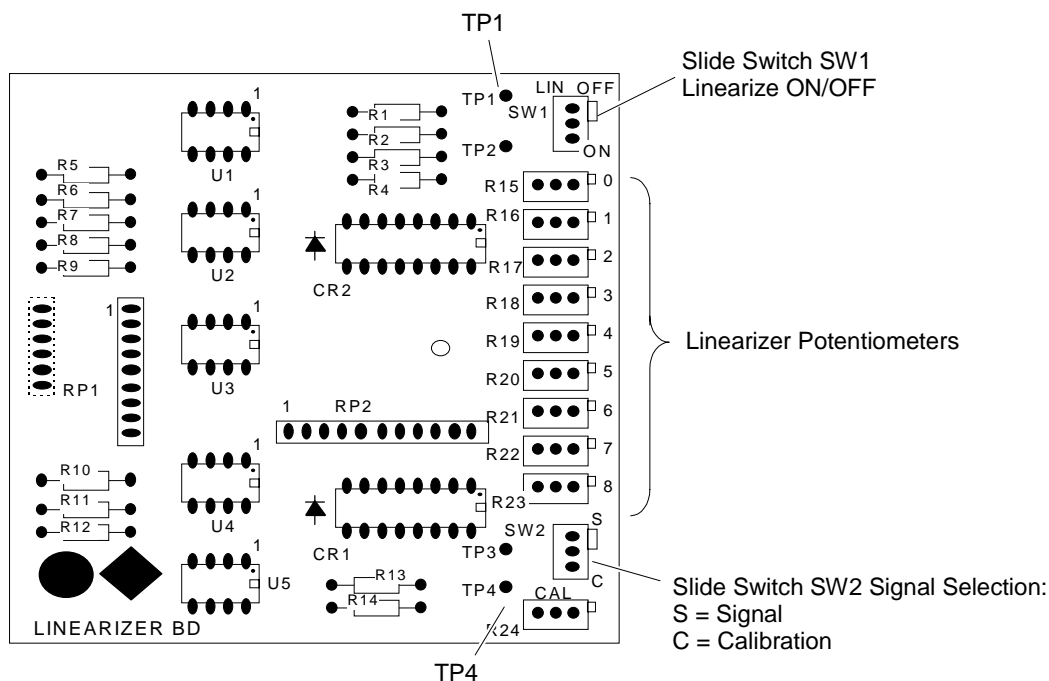

FIGURE 3-3. LINEARIZER BOARD ADJUSTMENTS
1. Determine the fullscale range to be calibrated. On the Linearizer Board (Figure 3-3) set SW1 to OFF.
9. The linearizer can now be adjusted using potentiometers R15 through R23 on the Linearizer Board (Figure 3-3).
4. On the Linearizer Board (Figure 3-3):